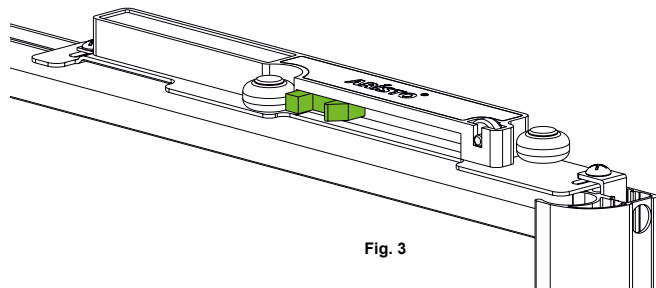

Fig. 3
- 3 Install the door inside of the tracks of the wardrobe. Do not activate the soft closers (Fig. 3).